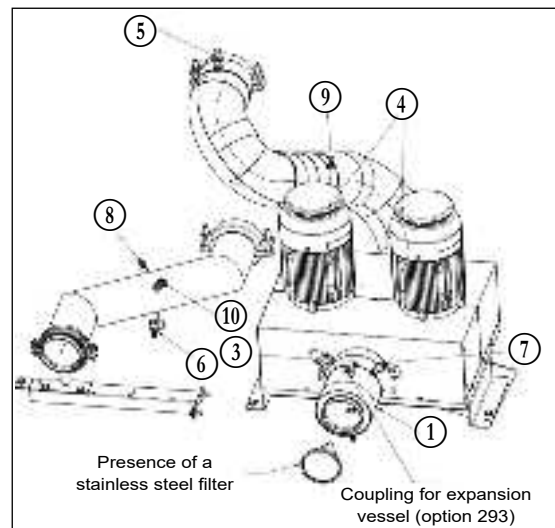

Figure 2: Hydraulic connections with hydraulic module
- Make sure that the stainless steel water filter is in the screen filter. See figure 2.